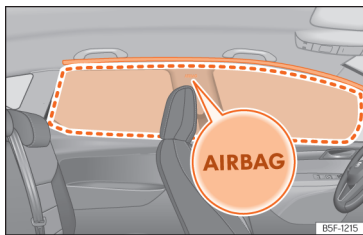

Fig. 33 Location and deployment area of the head-protection airbag.
Head-protection airbags are on both sides of the passenger compartment, above the doors >>> **Fig. 33** and their location is indicated with the word "AIRBAG".
The framed area is covered by the head-protection airbag when it is deployed (deployment area) >>> **Fig. 33**. Therefore, objects should never be placed or mounted in this area >>> **△**.
- Ensure that children are correctly seated in their seats and that their heads are not in the deployment zone of the head airbags >>> **Fig. 33**, as deploying airbags could hit them and cause serious injury.